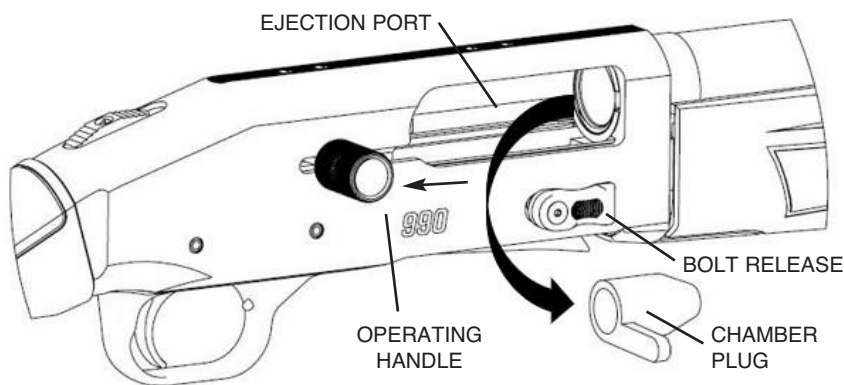

Figure 4
2. Pull the operating handle fully rearward in one quick motion. When released, the bolt will move slightly forward (towards the muzzle) and lock in the open position. (Figure 4).
Keep fingers clear of the operating handle and the ejection port when closing the action. (Figure 4)
With the safety button fully rearward in the “ON” (SAFE) position, and the muzzle pointed in a safe direction, press the bolt release until the action releases (Figure 4).